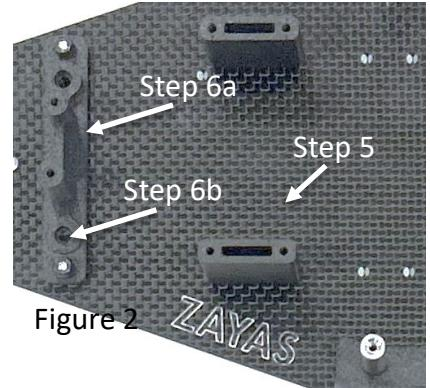

Figure 2
- Step 6a:** Install the bellcrank adapter with the supplied 4-40 x .5" (Qty. 2) flat head screws on the middle two holes. Tighten the screws all the way. **Note:** The bellcrank adapter needs to be installed with the taller support on the left side, see Figure 2